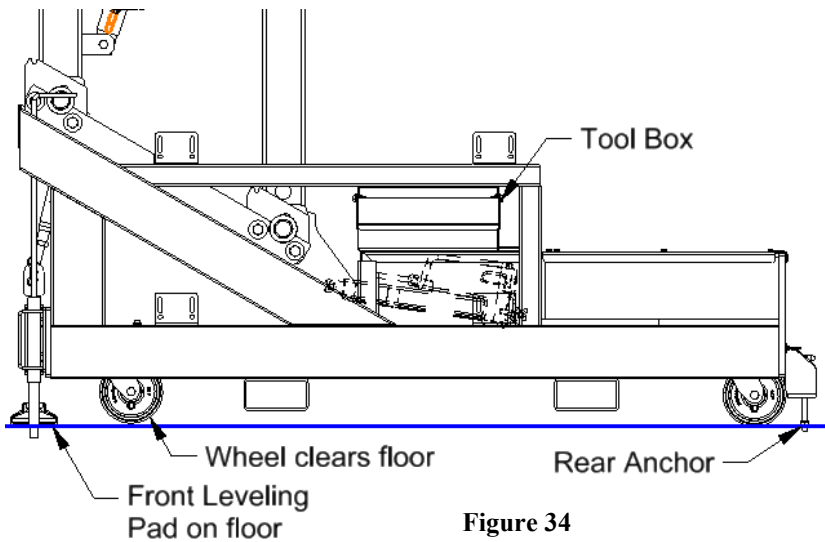

Figure 34
5. Check that the Front Leveling pad is on the floor and the Front Casters wheels clear the floor as shown in figure 34. Unit is ready to play.